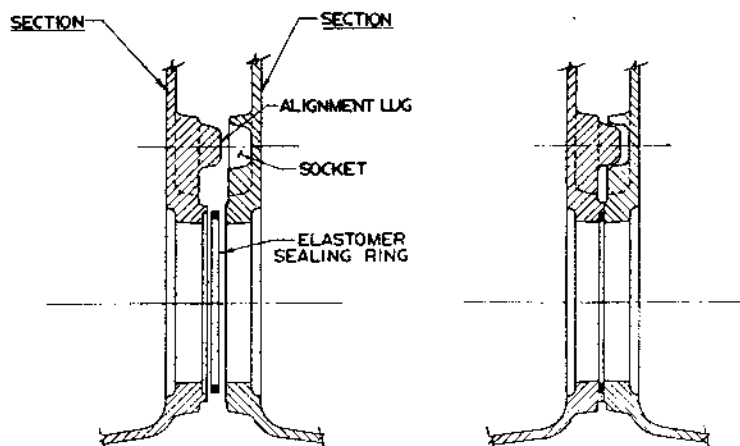

FIGURE 4
- Position the intermediate section so that the aligning lugs will fit into the sockets of the adjacent section (see FIGURE 4). Oil the threads of four (4) of the longer draw rods ($\frac{5}{8}$ " x 13") and slip them through the lugs on the top and sides of each section. Place a washer (only one washer per draw rod) under each nut to be tightened, with a drop of oil between washer and nut.